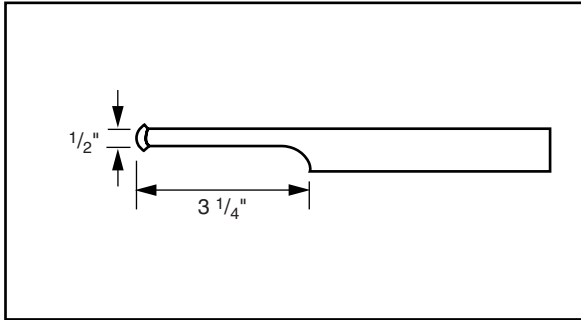

Figure 23.3 The finished tail.
1. The bolt is made from an 8-inch piece of $\frac{1}{4} \times 1$ -inch square bar. Forge the tail of the bolt first. The finished tail should be $\frac{1}{4} \times \frac{1}{2}$ inch and at least $3\frac{1}{4}$ inches long (Fig. 23.3).